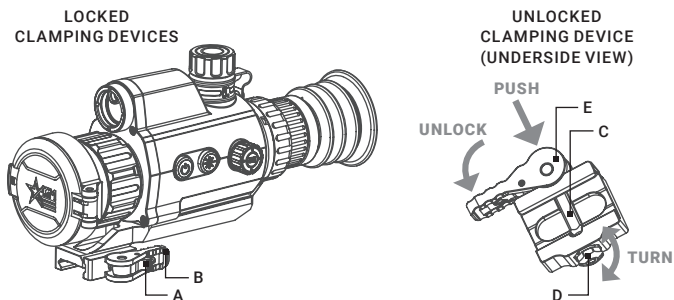

FIGURE 2-5. MOUNT
To install the VarmintV² LRF with quick release mount to a Picatinny/Weaver rail, perform the following (Figure 2-5):
2. With the clamping device unlocked (as shown in Figure 2-5), push the cam (E) towards the arrow, which will cause the nut (D) to slide out of its hole.
3. To tighten/ loosen the clamping device, push down on the cam (E) and turn the nut (D) CW/ CCW respectively, in one-two increments (see note below). Much like when the cam (E) is released, backward-moving spring will cause the nut (D) to slide back into its hole.